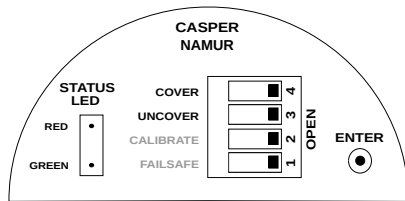

Figure 26: Saving of Low Current Configuration
- Blink the RED LED only once and release the ENTER key as per Figure 26.